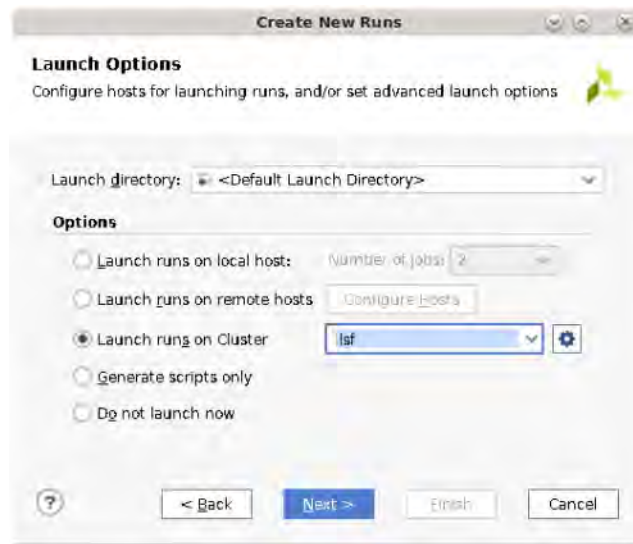

Figure 2-2: Implementation Launch Options
4. The Launch Options screen appears, as shown in Figure 2-2. Specify options as described in the steps below the figure.
**Note:** The **Launch runs on remote hosts** and **Launch runs on Cluster** options shown in Figure 2-2 are Linux-only. They are not visible on Windows machines.